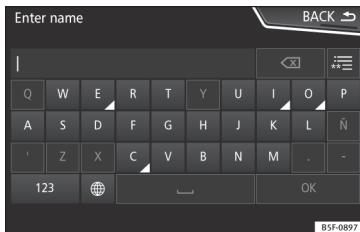

Fig. 202 Search window.
- Enter the name of the contact you are looking for in the window»» Fig. 202. While the characters are being entered, a contact is displayed in the input field.